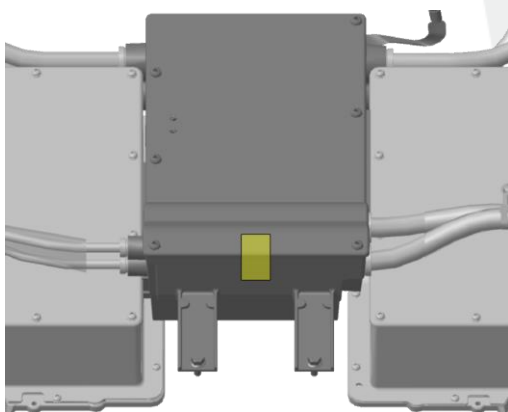

Figure 1 (1st generation; conductive tape highlighted)
- At the front of the HVJB (Figures 1 and 2):